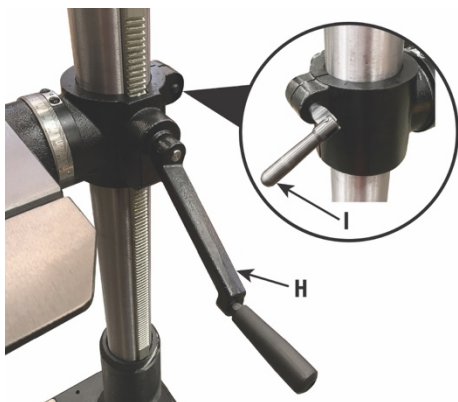

Figure 6-9
5. Install the table elevating crank handle (H) to the worm shaft using the 3mm hex wrench. Install the lock handle (I) to the table bracket. See Figure 6-9.